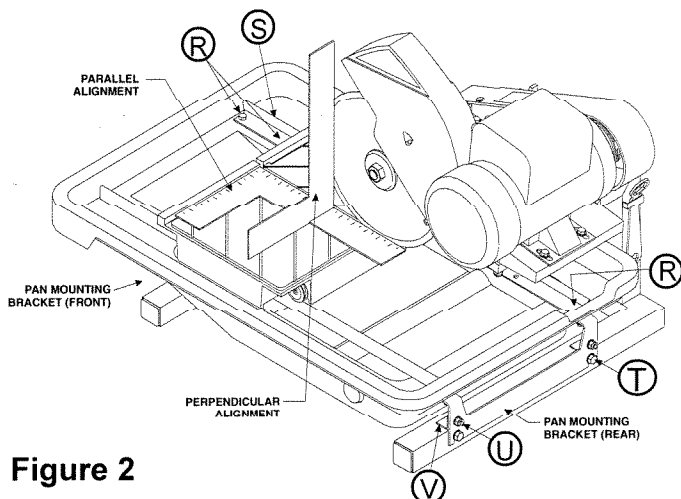

Figure 2
- * The Cutting Head Assembly (1) is located between the Set Collars (A-B). Using the Thumb screw on the outer collar and a 5/32" hex key for the inner, loosen the two set collars. Move the Head Assembly along the Pivot bar until the blade is in the center of the slot. Relocate the Set Collars against the sides of the Cutting Head again and retighten their set screws.
2. Check the Parallel Alignment (See Figure 2)
- * Loosen the six (6) fasteners (R) locating the two (2) rails (S) so that both rails are free to move. Move the end(s) of one rail until the square is flush with the blade. Tighten the fasteners of this rail and recheck the alignment. Once alignment has been made, move the cart fore and aft to locate the second rail. Tighten the remaining three fasteners.
3. Check the Perpendicular Alignment (See Figure 2)